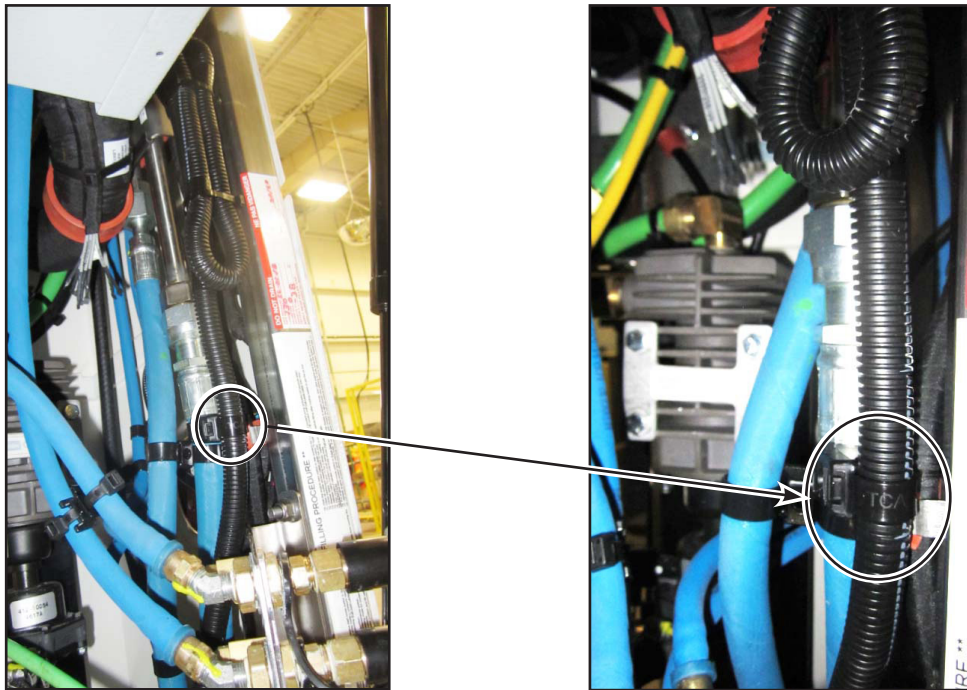

Figure 11 - Install the Dual Clamp Tie
1.11. Install the dual clamp tie (see Figure 11).